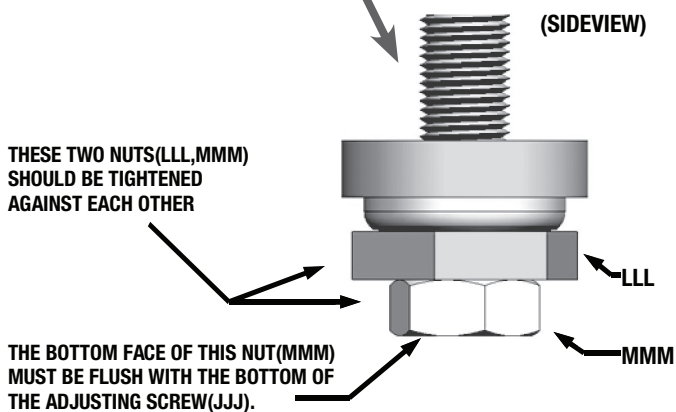

Figure 39
**Step 54:** Thread the Aluminum Bearing Nut (LLL) onto the Screw (JJJ) from the bottom. Leave some room below the Bearing Nut (LLL), and thread a 1/2-20 SS Left-Hand Jam Nut (MMM) onto the Screw (JJJ). The Jam Nut (MMM) and Bearing Nut (LLL) should be tightened against each other as shown in Figure 39.
**Step 55:** Place the Tube Cap for VRP-600/1000\_SB-PID or Tube Cap SS for VRP-1500-SB-PID (000) and Control Spring (NNN) onto the Adjusting Screw (JJJ). Check the concentricity of the Spring (NNN), by spinning the assembly. Make sure that the Spring (NNN) touches no parts of the Screw (JJJ) when spinning. If the Spring (NNN) does touch any part of the Screw (JJJ), then replace the Spring (NNN) and repeat the test. If the Spring (NNN) is satisfactory then move to Step 56.